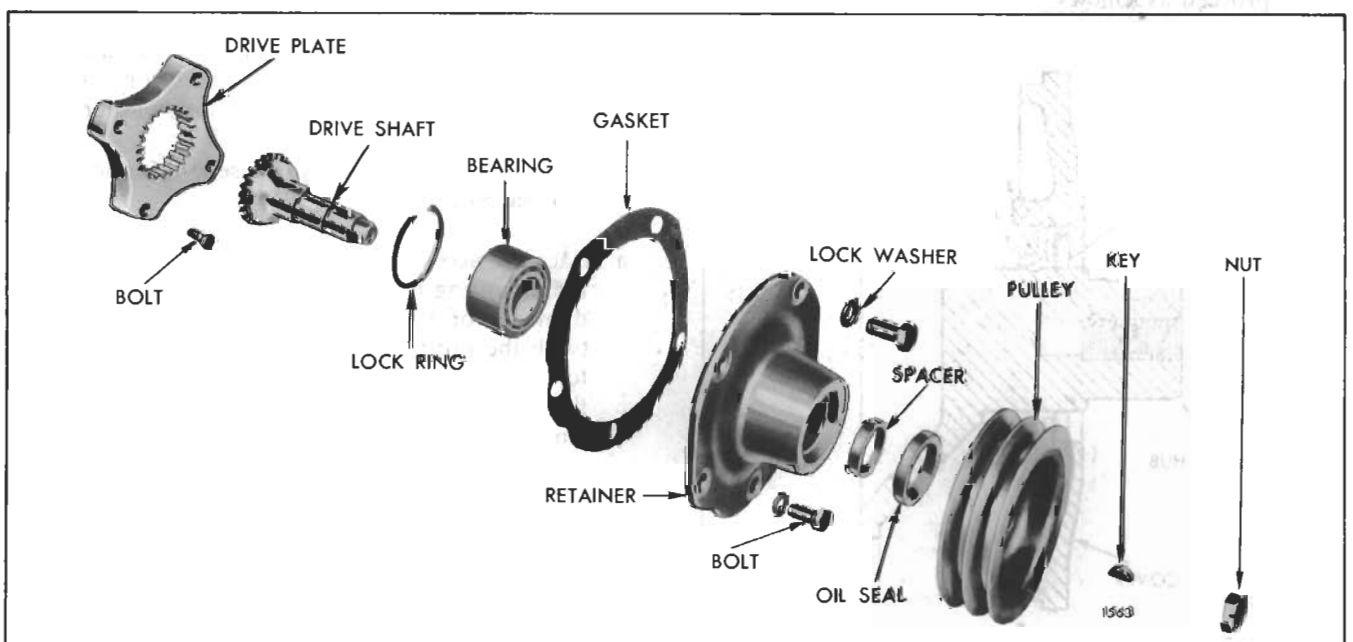

Fig. 4 - Components of Accessory Drive for Belt-Driven Accessory (Drive Plate Type)
Refer to Figs. 4 and 5 and remove the accessory drive used with a belt-driven accessory as follows:
6. Remove the accessory drive shaft from the retainer (Fig. 4).
7. Remove the snap ring and ball bearing from the accessory drive retainer (Fig. 4).
Remove and discard the oil seal. **Also inspect** the oil seal contact surface of the drive shaft (Fig. 4) or drive
3. If a belt-driven accessory is used, refer to Fig. 4 and proceed as follows: